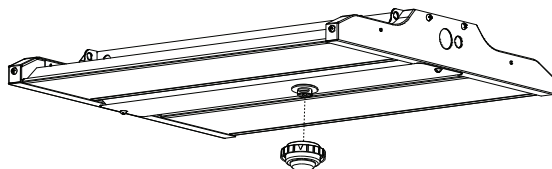

FIG. 3
3. Plug the c-Max™ control node into the USB-C receptacle (see **FIG. 3**).